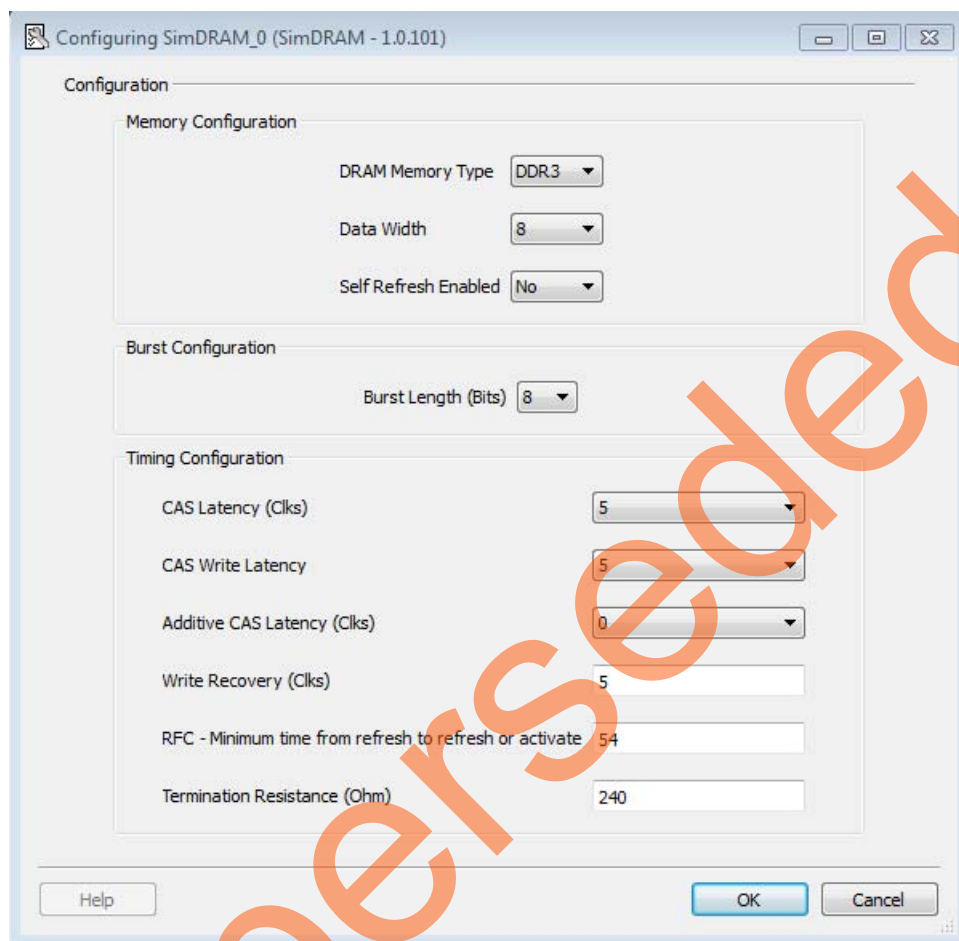

Figure 24 • Configuring SimDRAM
4. Enter the Generic DDR Memory Simulation model configuration details, as shown in Figure 24. The example design uses two instances of SimDRAM (VIP model) with a device width size of eight.